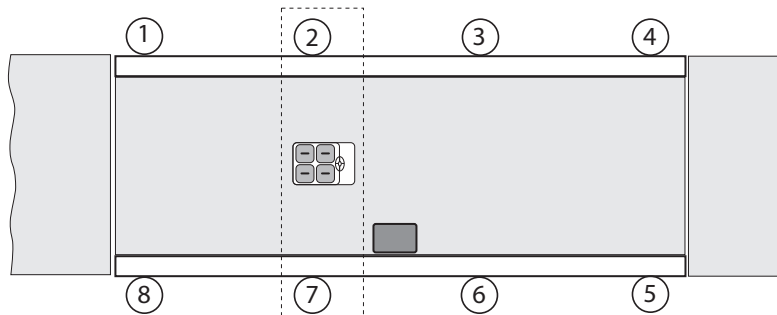

Figure 8-5. Trimming Paired Sections 2:7, 3:6 and 4:5
2. Move the weight cart directly over the next paired cell section (2, 7 in Figure 8-5) then record the indicator reading.
- Repeat this for the last two paired sections (cells 3, 6, and 4, 5 in Figure 8-5)